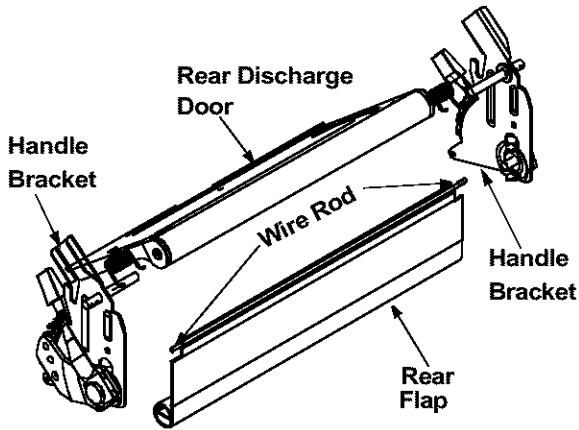

Figure 19
- To remove rear flap, cut off the flat end of the wire rod which secures it to the deck. See Figure 19.